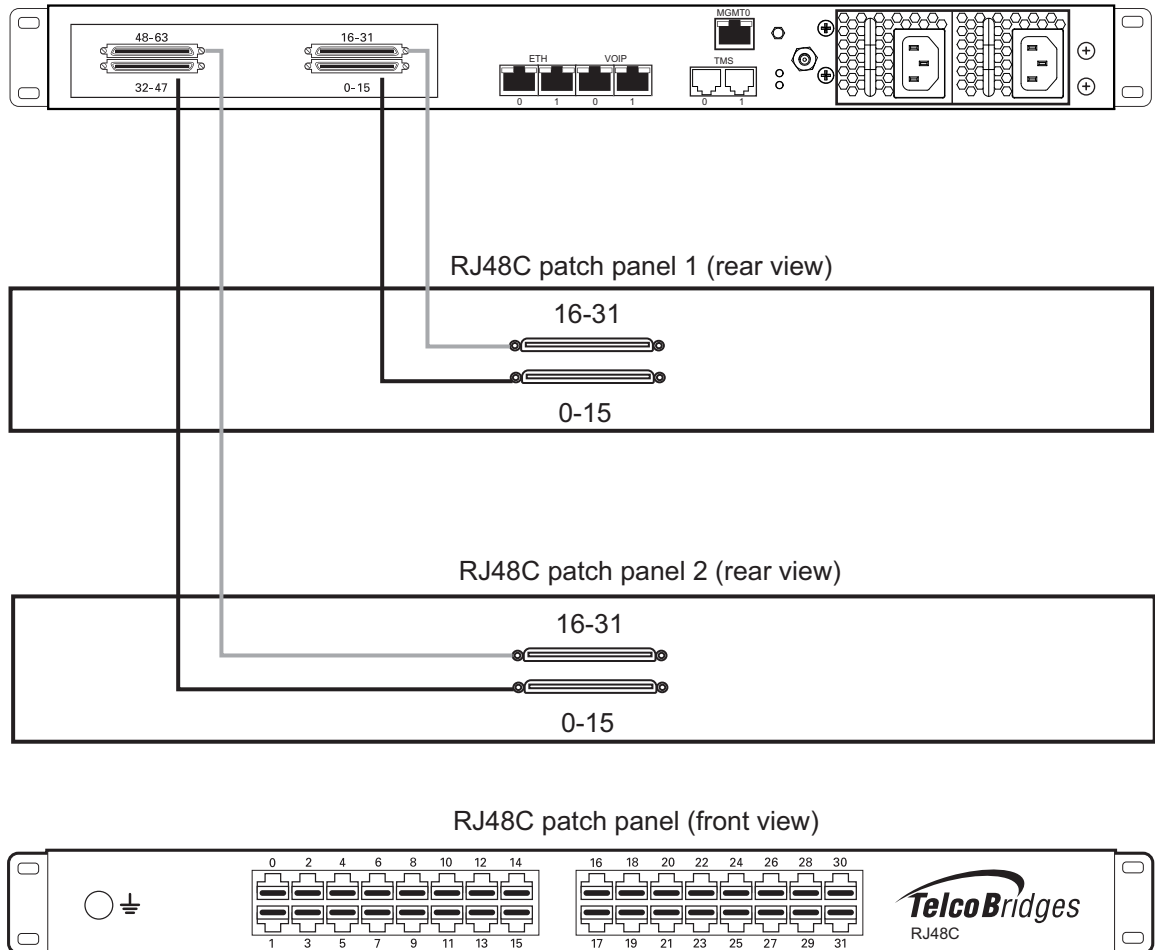

Figure 4.3 TMG7800-TE with SCSI connectors
1. Start with SCSI ports 0-15 located at the bottom right as shown in figure 4.3 on page 26. Connect one SCSI cable between this port and RJ48C patch panel number 1, ports 0-15. Connect SCSI ports 16-31 to patch panel number 1, ports 16-31.